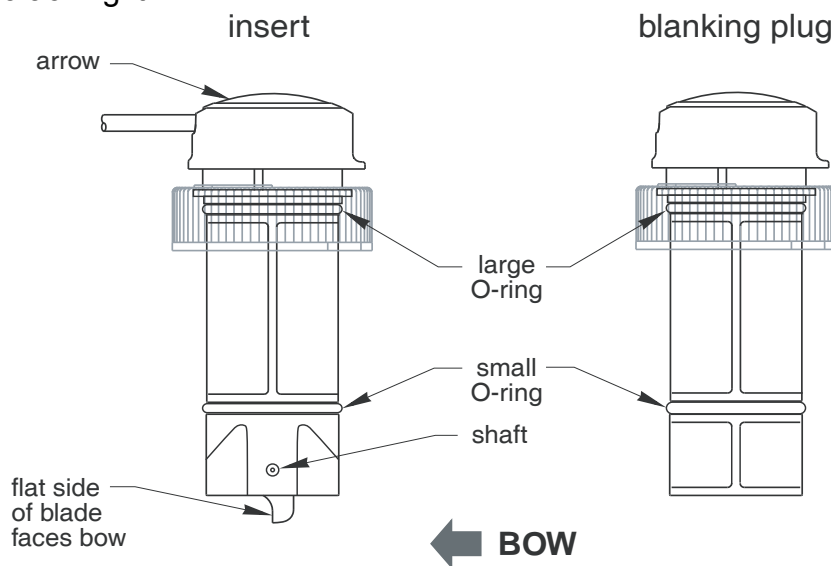

Figure 6 – Replacing the Paddlewheel and O-rings
1. Inspect the O-rings on the blanking plug (replace if necessary) and lubricate them with the silicone lubricant supplied or petroleum jelly (Vaseline®) (see Figure 6).
1. Remove the old paddlewheel shaft with needle-nose pliers (see Figure 6).